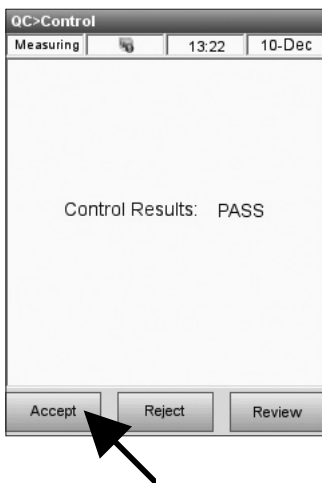

Fig. 4-24 Accept QC Results
- In the subsequent screen (Fig. 4-24), you can press <Accept> if results are acceptable, and the results will be stored in the Control Database.